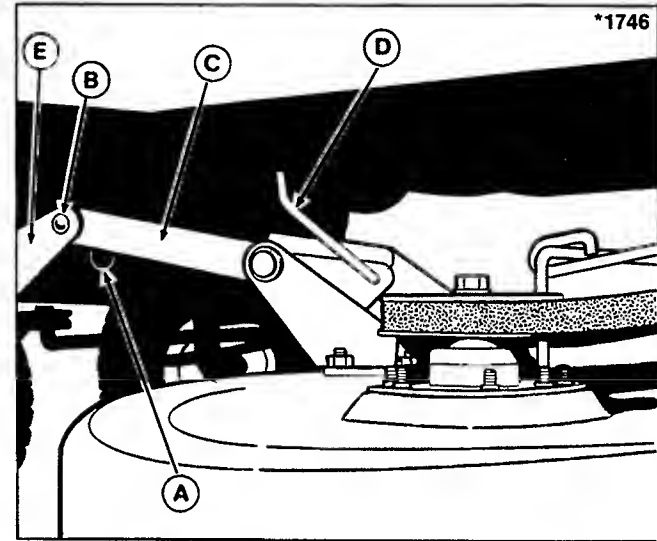

**Figure 22. Mower Upstop Bracket - 36" Mower**
2. With mower as far toward rear of rider as possible (rollers just clear tires) push mower under rider until hitch touches steering mechanism. To slide mower farther, push down on both the hitch and the roller arm (C). Slide mower until the hitch arms are on either side of the steering mechanism.
3. Slide the mower back toward the left and forward to align mower bracket (A, figure 22) in front of upstop bracket (B). (If drag link interferes with hitch, push hitch up for clearance.)
6. Apply a little grease to the inside of the spacer (C, figure 22) and place the spacer on the bolt (D). Install the bolt thru the upstop bracket and mower bracket from the rear. Install the locknut (E) and tighten securely. The spacer (C) must ride inside the upstop bracket (B).
3. Remove the bolt, spacer, locknut from the mower bracket (A, figure 22).
2. Remove the bolt, spacer, lockwasher and nut from the mower bracket (A, figure 22).
7. Remove the belt. Push brake away to slip belt off pulleys. Slide the mower to one side to slip belt between mower bracket and upstop bracket (B, figure 22).